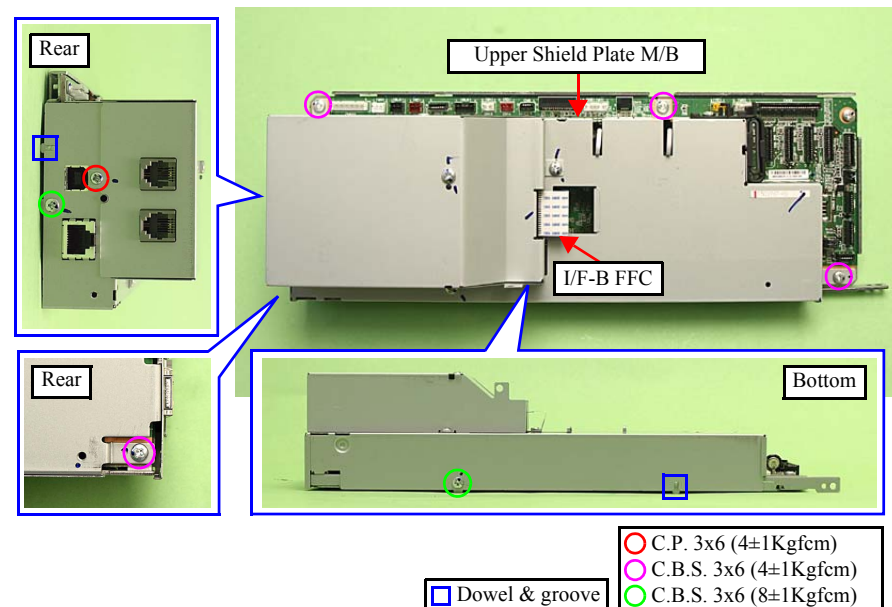

Figure 4-41. Removing the Main Board (1)
1. Disconnect the I/F-B FFC from the FAX board. (Artisan 800/PX800FW/TX800FW only) (See Fig. 4-41.)
- Align the dowels (x2) of the Lower Shield Plate M/B with the grooves (x2) of the Upper Shield Plate M/B. (See Fig. 4-41.)